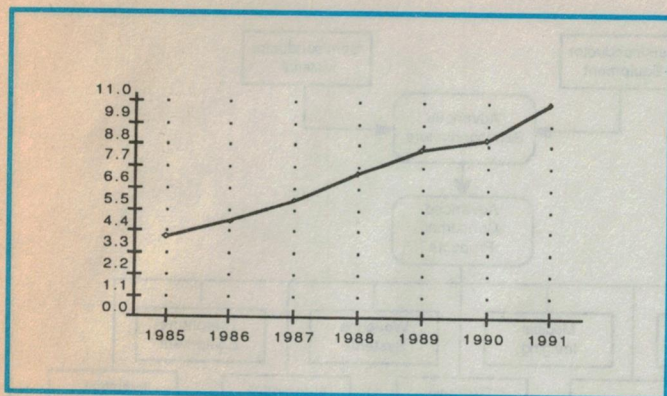

Fig.1: World ASIC market sales in billions of US dollars, as predicted by Dataquest.
2. Custom/ASIC components will replace multiple standard parts. In many electronics markets, designs based on single ASIC components are delivering lower manufacturing costs and higher performance than designs based on multiple standard components. ASICs' share of the semiconductor market has risen steadily over the past few years, and will continue to do so as semiconductor design and manufacturing skills improve (Fig.1).